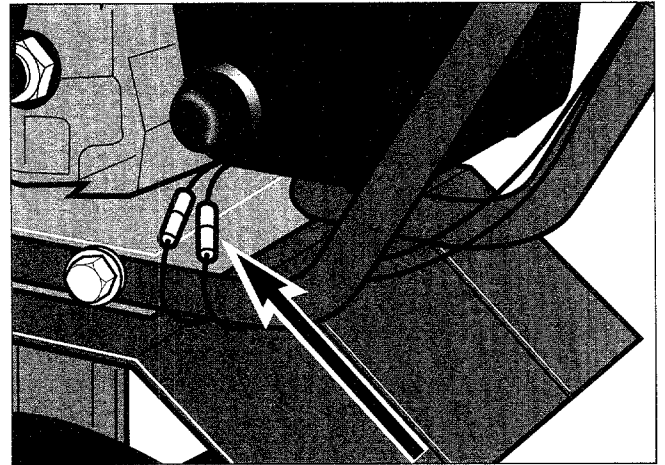

Figure 8: Connect the two sets of wires having the same connector colors.
17. Connect these two wires to the two loose wires that lead from the engine (see arrow in Figure 8). Snap together the two sets of wires having the same connector colors (red to red and white to white).